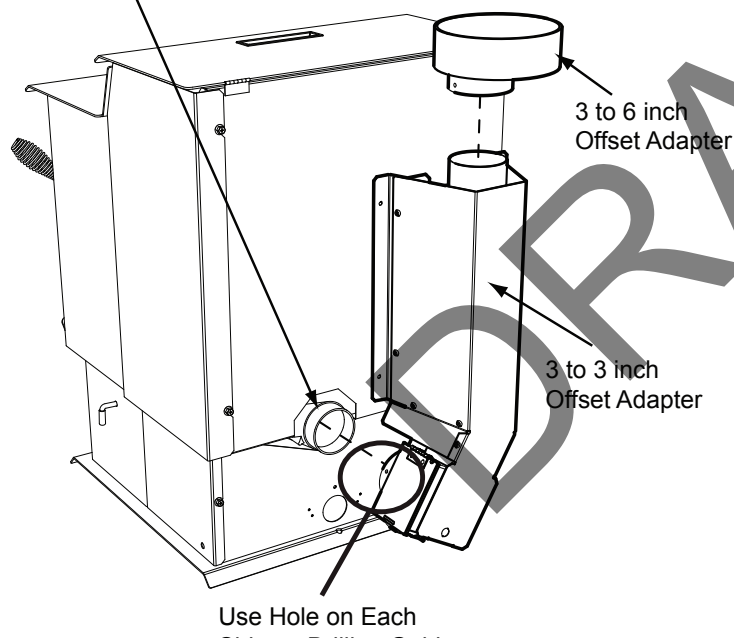

Figure 21.1
1. Put a layer of high temperature silicone on the 3 inch (76mm) exhaust outlet. Do not put silicone inside of pipe (**Figure 21.1**).
2. Slide the top vent adapter onto the rear exhaust outlet and adjust the assembly to a vertical position (**Figure 21.1**).
3. Drill 4 holes with #26 drill bit (provided) into the back of the appliance using the outer shield as a pattern (make sure the assembly is vertical) (**Figure 21.1**).
5. Drill 2 holes with #26 drill bit through the rear exhaust outlet using the 2 holes already in the short horizontal pipe in the top vent adapter as a guide. Install the 2 screws (**Figure 21.1**).
7. To clean the top vent adapter open the clean-out cover (**Figure 21.1**).